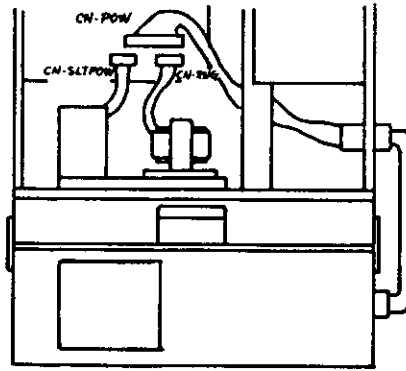

FIGURE 4-8 ZT-824/2464
- Wiring diagram for the ZT-824/2464 KSU with the power supply PWSA, Batteries, RNGER and DCDC-Z units is shown in Figure 4-8. (Page 4-10).